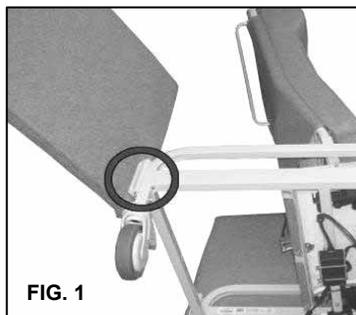

FIG. 1
1. Locate the rear-right side of the chair. (FIG. 1)
2. Using a Phillips-head screwdriver remove the 2 screws from the rear brace. (FIG.1)
1. Locate the REAR RIGHT-SIDE of the chair. (FIG.1)
2. CAREFULLY place the chair on it's side & And open the swing arm all the way. (FIG.1)
6. Locate the rear-right side of the chair. (FIG. 1)